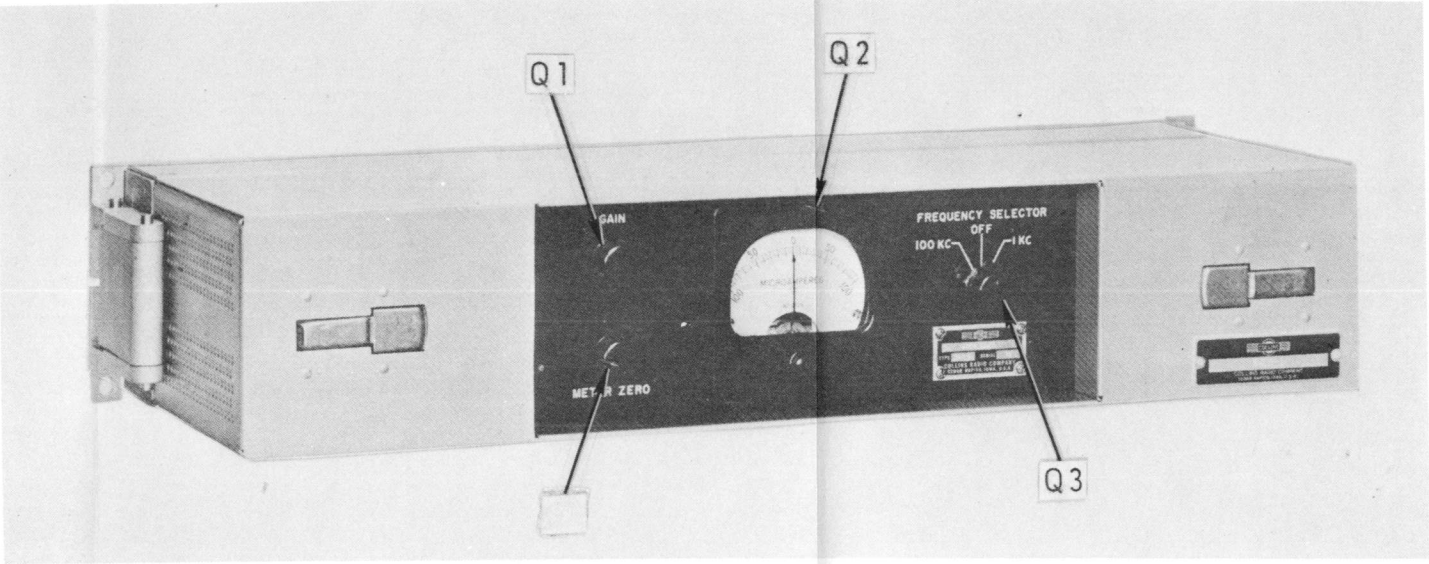

Figure 2-7. Signal Comparator
Use the signal comparator schematic diagram, figure 5-122, and table 3-1 (volume 2) in NAVSHIPS 93285(B) to match the indicators and controls called out in figure 2-7 of this text (page 2-71) with their circuit and transceiver functions.